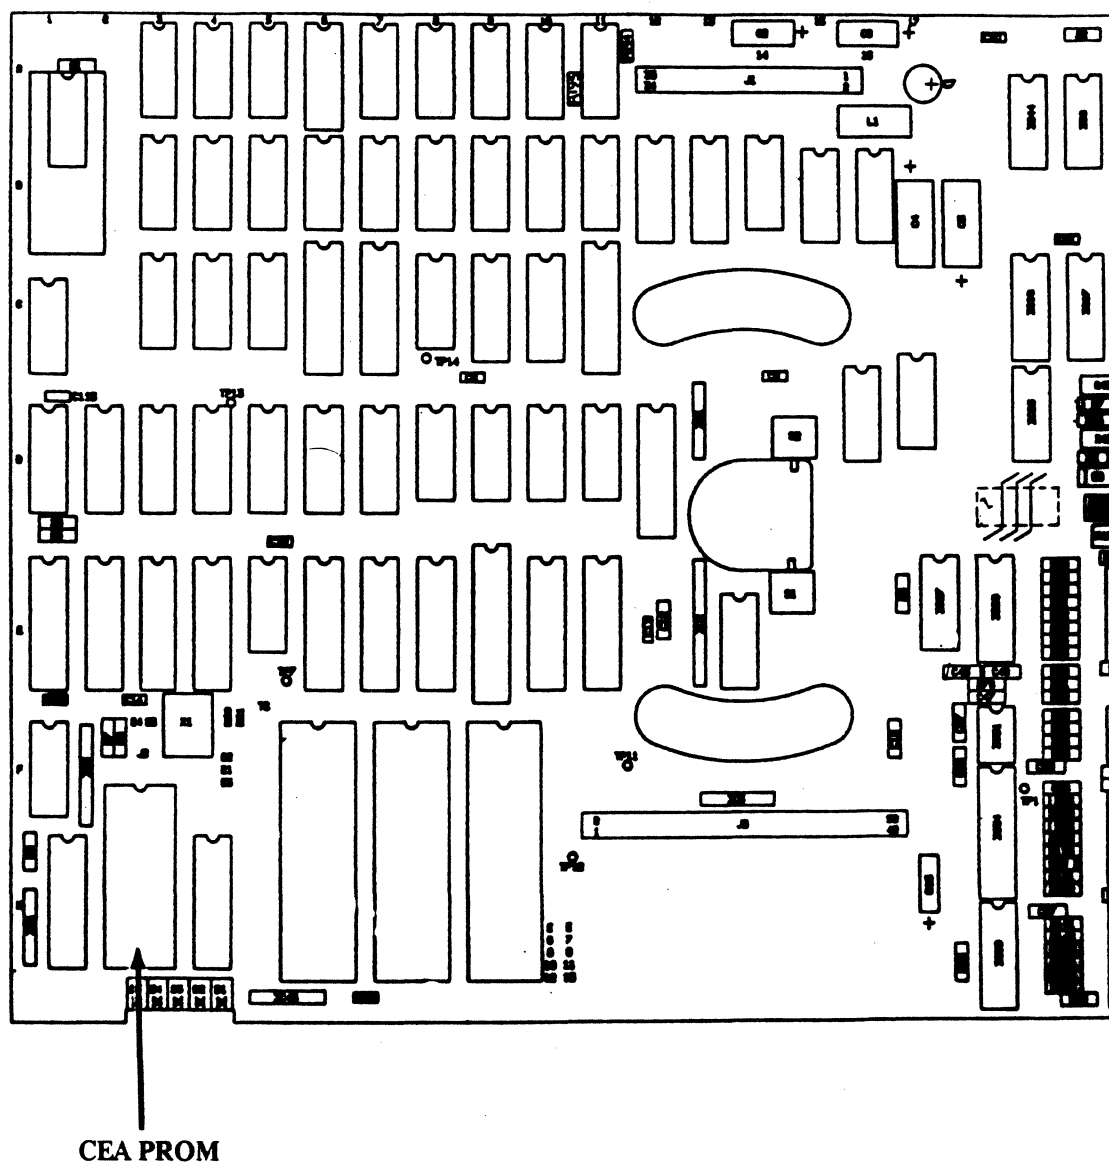

Figure 17B
- (b) Locate the CEA firmware PROM, shown in **Figure 17B**.